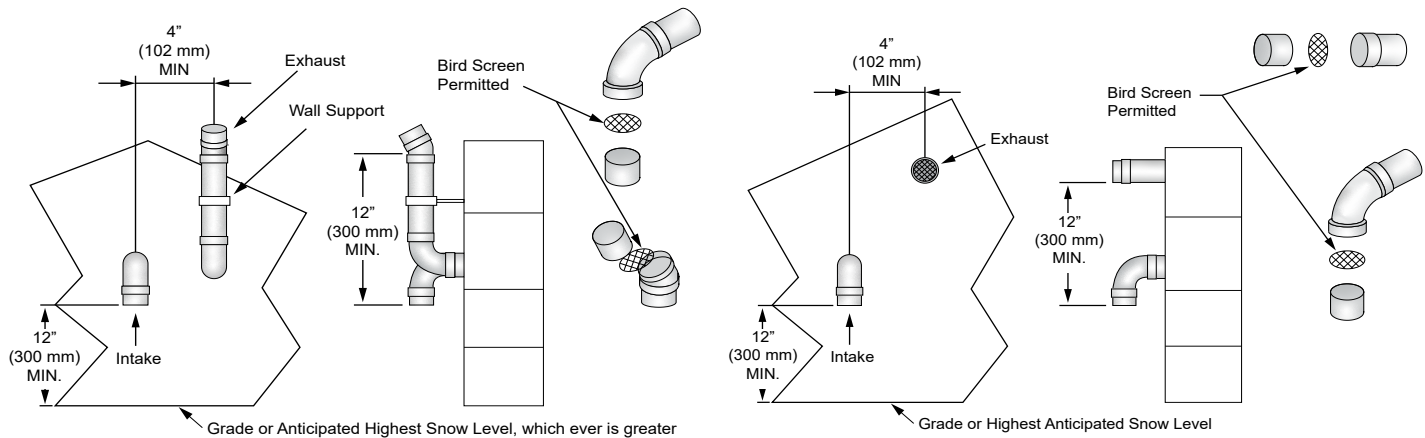

Figure 8.8: Sidewall Two Pipe Terminal Clearances *Figure 8.9: Sidewall Two Pipe Terminal Clearances, Straight Exhaust*
- The elevation of both pipes in a sidewall two pipe system can be raised in “periscope style” after passing through the wall, then configured as in **Figure 8.8**, to meet required clearances.